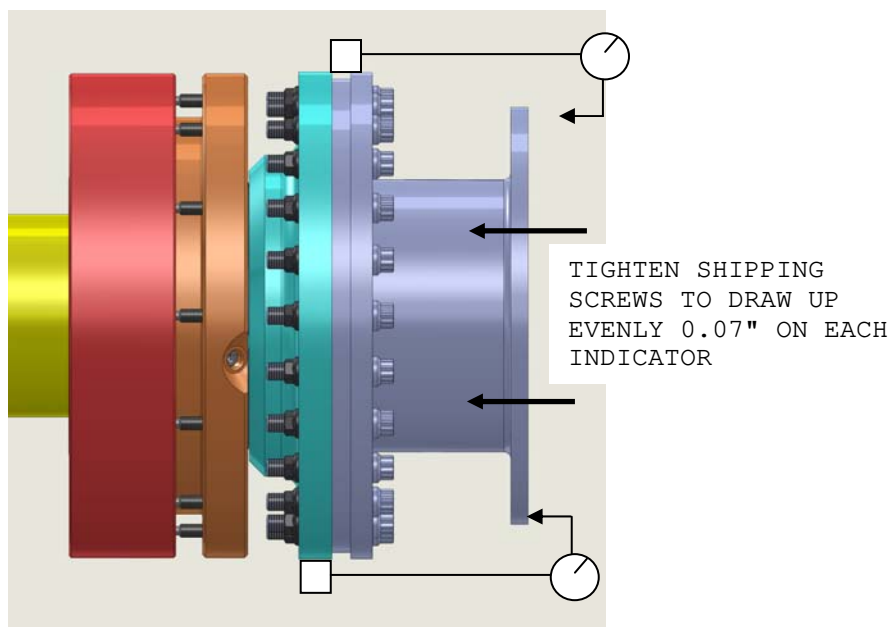

Figure 9a - "Drawing up" the Compressor End Diaphragm Pack Subassembly
3.2.1 Loosen the shipping screw jam nut and the shipping screws. Use (2) dial indicators placed 180° apart to measure deflection between the outer flange of the diaphragm pack and the coupling guard as shown in Figure 9a and 9b. Tighten the shipping screws to draw up (or compress) the diaphragm pack .070 inches on each of the dial indicators.